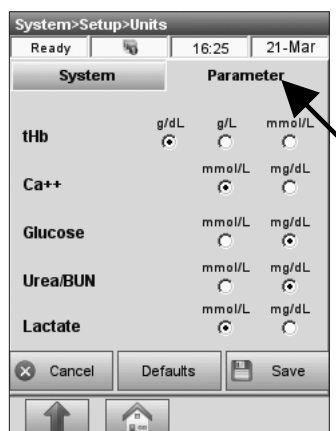

Fig. 3-78 Parameters
- Press the **<Parameter>** tab to go to the next screen (Fig. 3-78), and select the units for the remaining parameters.